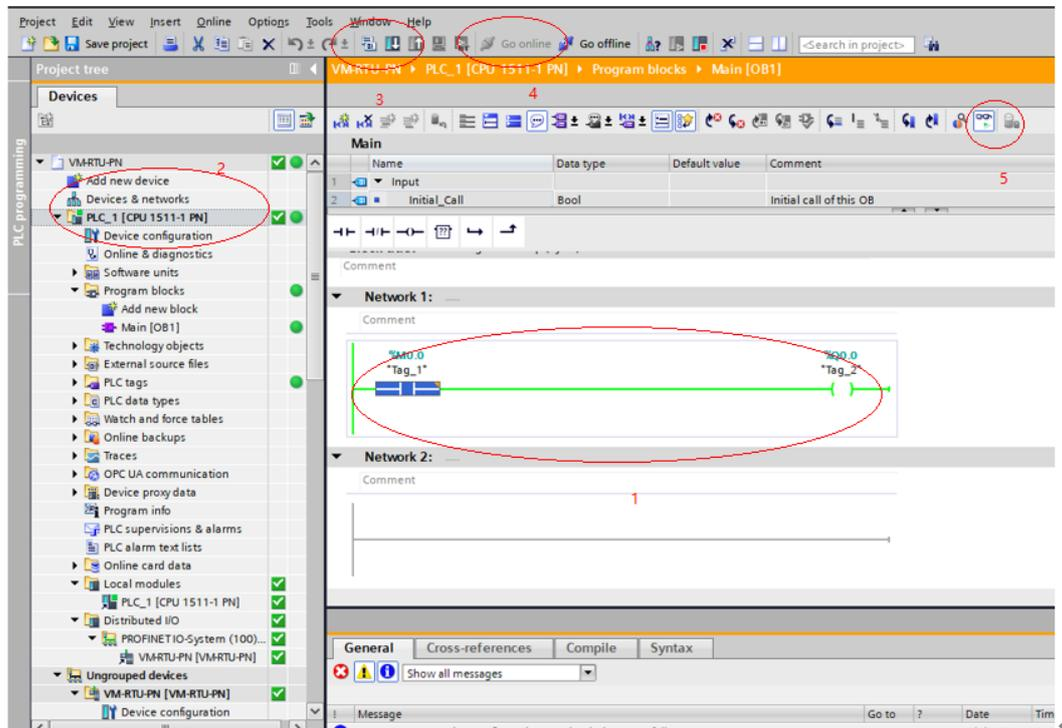

Figure 11 Online monitoring and commissioning
1. Add %M0.0 and control output %Q0.0 in Main[OB1] program, and then "Compile" - "Download" - "Go Online" - "Monitor", right-click to change the monitor value to 1, as shown in Figure 11 below.